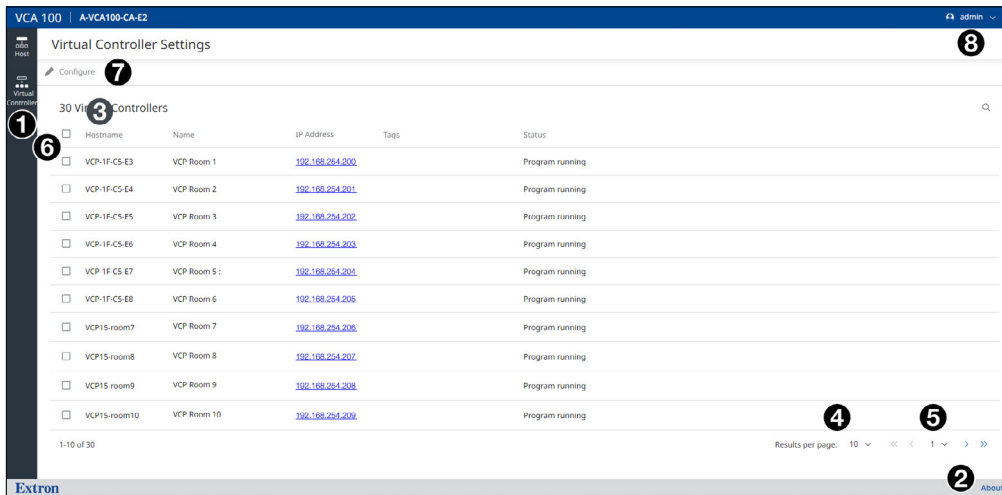

Figure 20. Virtual Controller Settings
If required, click the **Virtual Controllers** icon in the menu bar (see figure 20, ❶).
1. Select one or more devices by selecting the desired check boxes (see figure 20, 6, on page 23). You can select all devices by selecting the check box at the top of the column.
1. Select some or all VCPs (see figure 20, 6, on page 23).